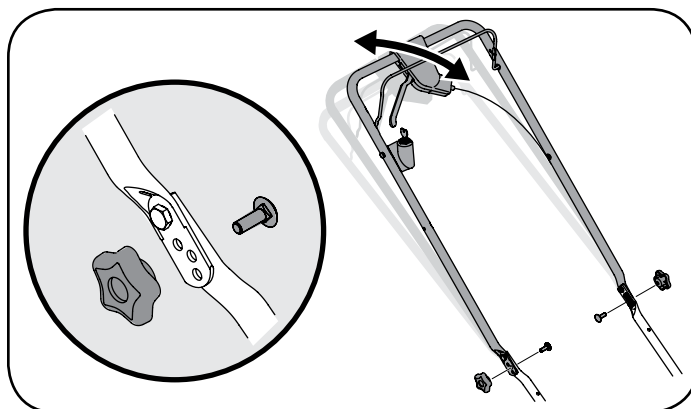

Figure 14
1. Handles with Knobs and Carriage Bolts. See Figure 14 -
- b. Position the handle in one of the three positions that is most comfortable. See Figure 14 inset.